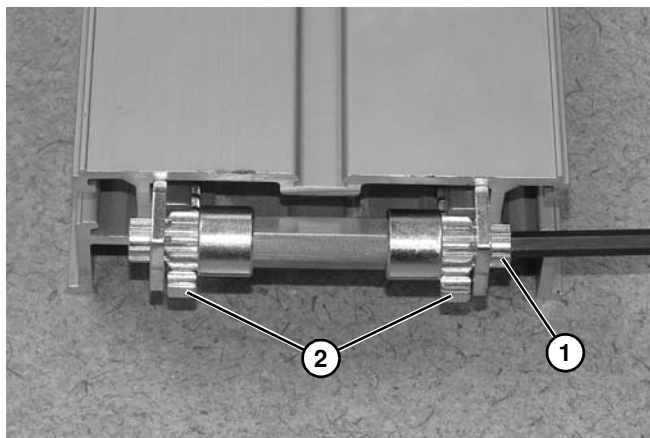

Figure 151
10. Rotate pinion (**Figure 151, item 1**) with hex wrench until gear racks (**Figure 151, item 2**) are fully collapsed.